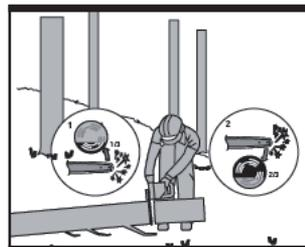

Fig. 26
- When the log is supported on one end, as illustrated, cut 1/3 the diameter from the underside (underbuck). Then make the finished cut by overbucking to meet the first cut. (See Fig. 26)